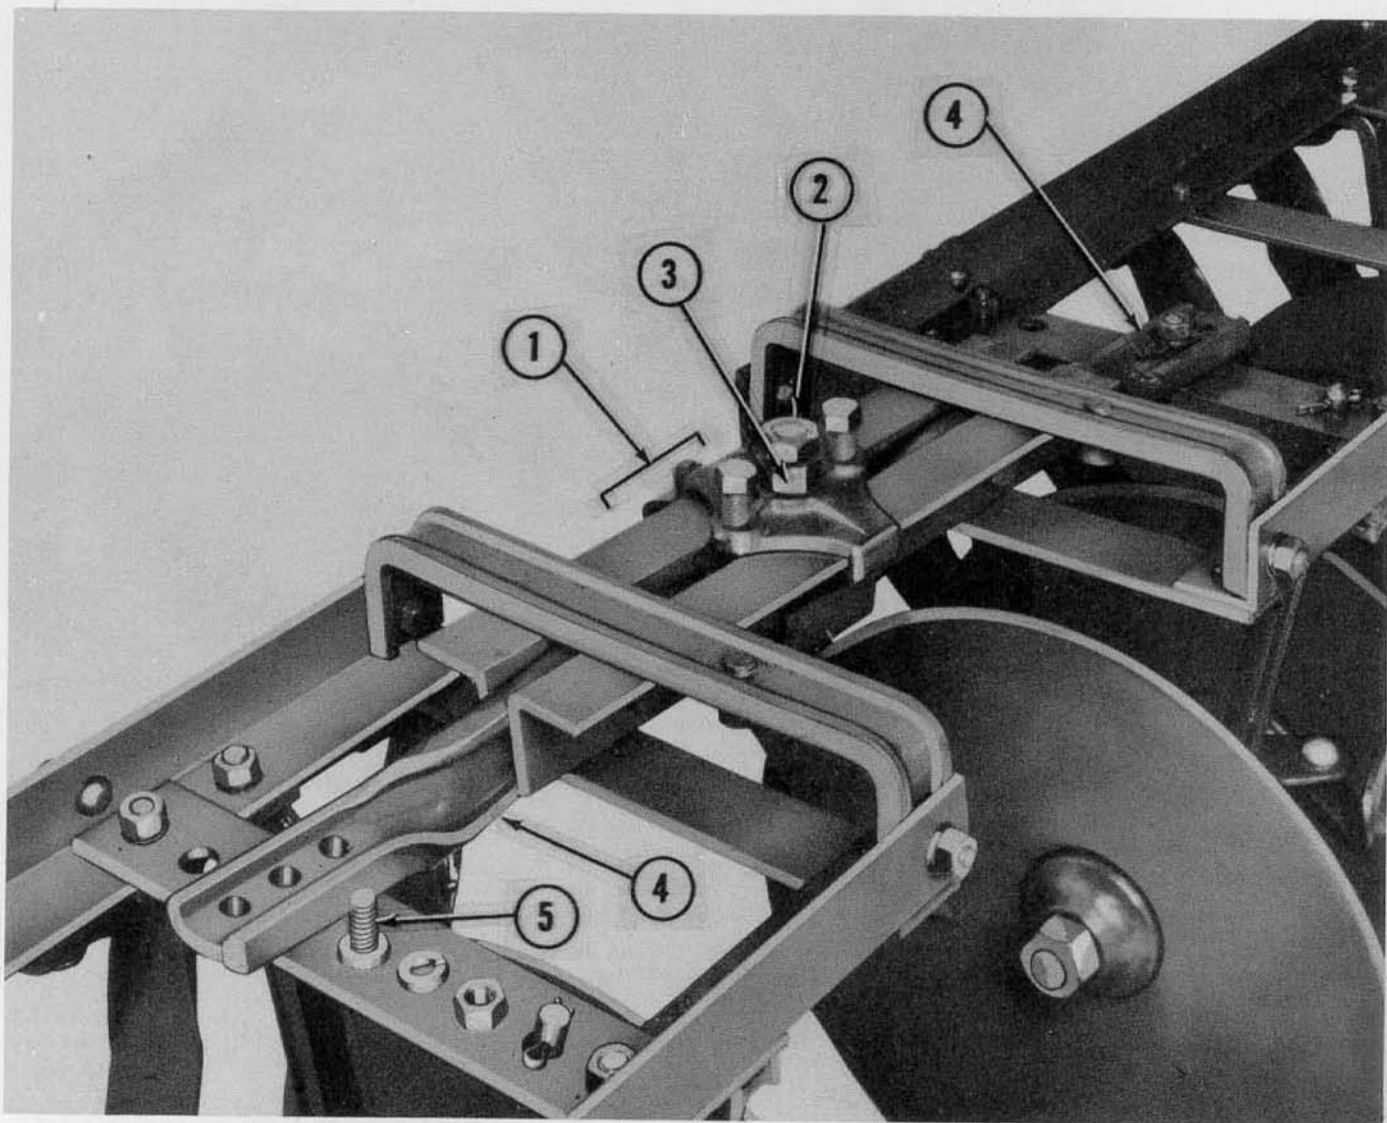
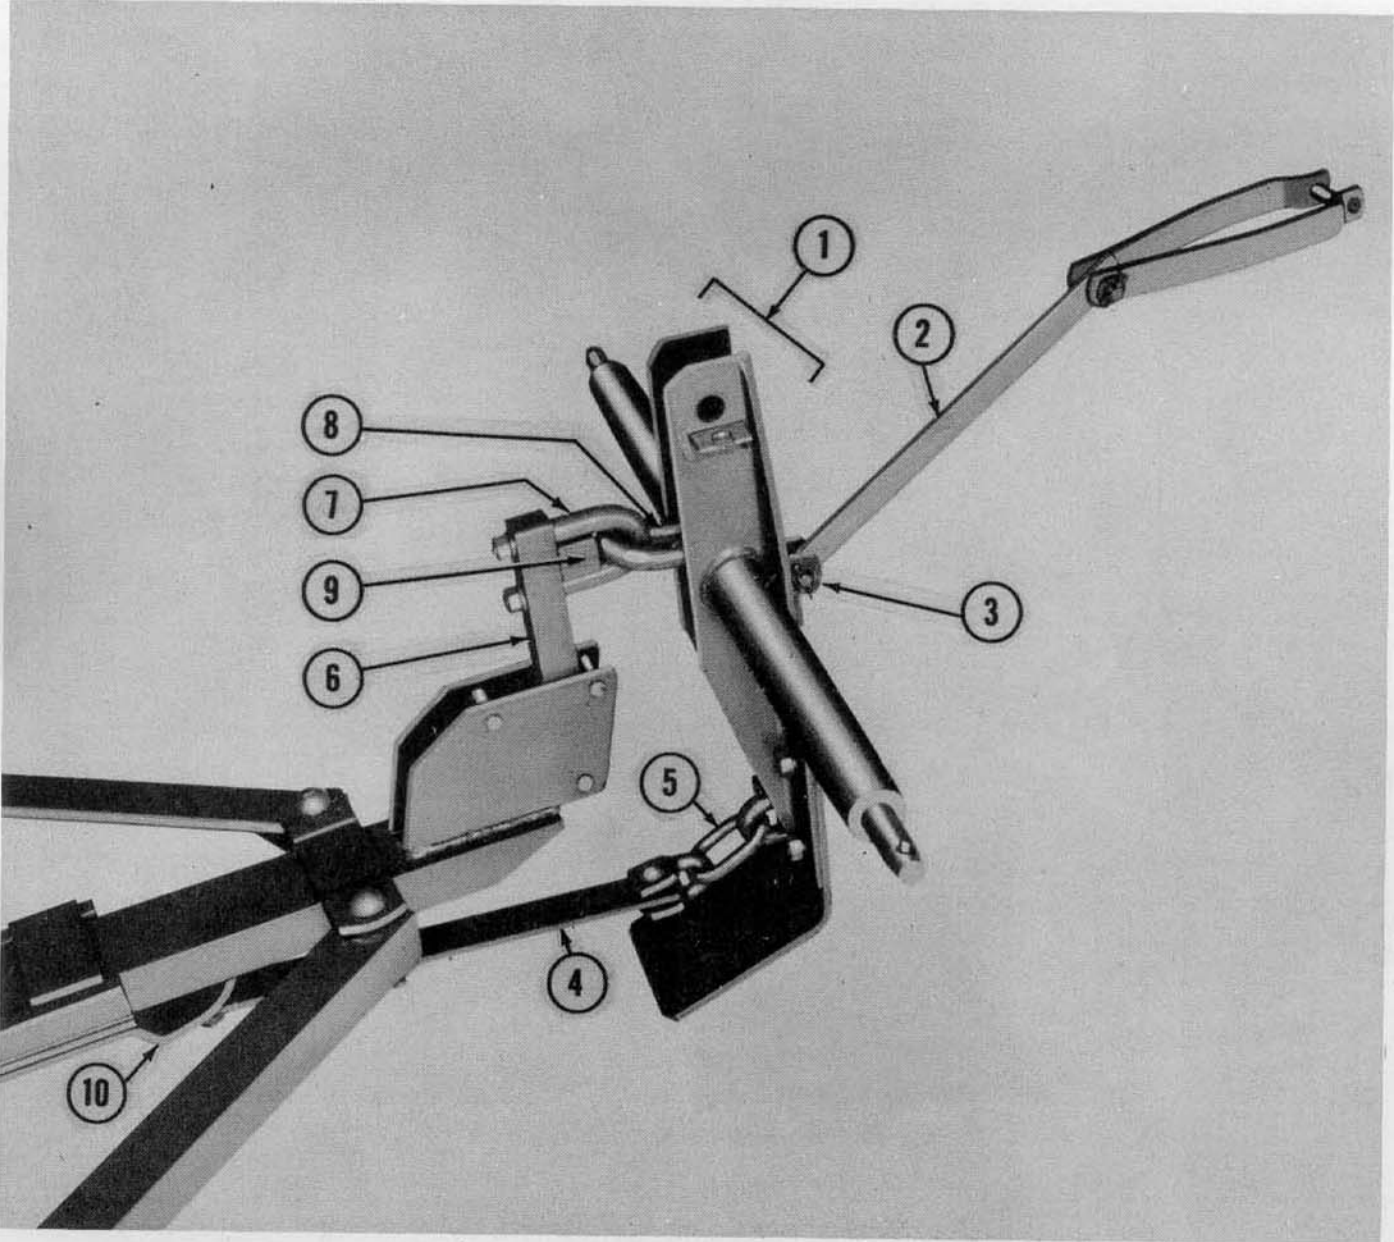

Figure 10
Figure 11
16. Attach rear snubber assembly (1), Figure 10, as follows:
a. Loosen locking nut (2) and adjusting nut (3) to give maximum movement to snubber arms (4).
b. Position snubber arms *on top* of snubber angles with bushing and bolt (5) inserted upwards through snubber angles and snubber arms.
17. Attach cross drawbar shoe assembly (1), Figure 11, to draft bar as follows:
a. Attach gang angle adjusting bar (2) to clevis (3) on forward face of drawbar assembly.
b. Attach connecting strap (4) to shoe link (5).
c. Attach drawbar assembly to hitch post (6) by inserting hitch post yoke (7) through welded link (8) in draw bar. Bolt yoke to hitch post as shown in Figure 11.
NOTE: Make sure hitch post yoke filler (9) is in position as shown in Figure 11.
d. Attach rear end of connecting strap (4) to bracket (10) on underside of draft bar with bolt, bushing, lock washer and nut.